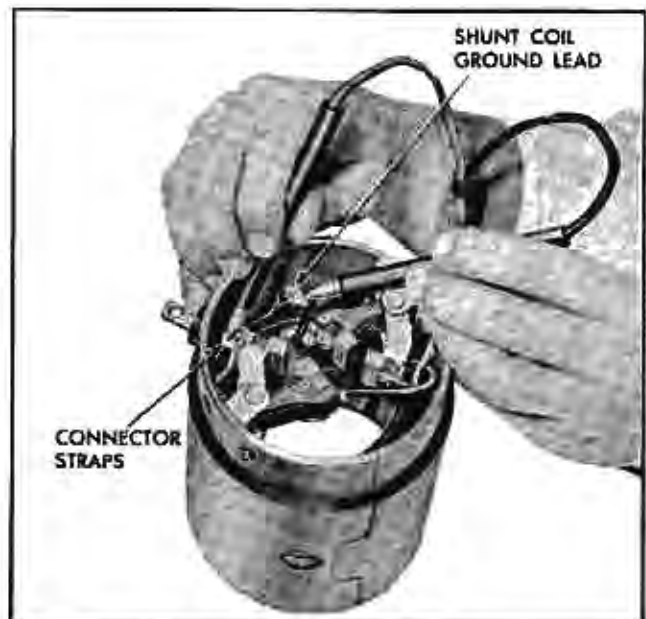

Fig. 11-48 Testing Shunt Coil for Open Circuit
e. Using a 110-volt test lamp, place one lead on each end of the shunt coil or coils (Fig. 11-48). Disconnect the shunt coil grounds before this check is made. If the lamp does not light, the shunt coil is open and will require replacement.